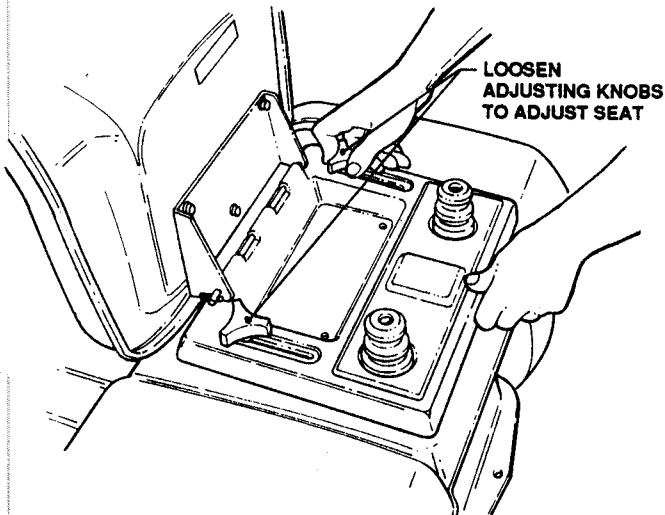

FIGURE 10
- RE-ADJUST SEAT as needed to most comfortable position. (Refer to page 6, Figure 10).
FRONT TO REAR ADJUSTMENT: With engine stopped, loosen the ADJUSTING KNOBS on seat support. Sit in Operator's seat and, while depressing the NEUTRAL RETURN/BRAKE PEDAL, slide the seat forward or rearward to the most comfortable position, then lock in position by tightening ADJUSTING KNOBS. See Figure 10.